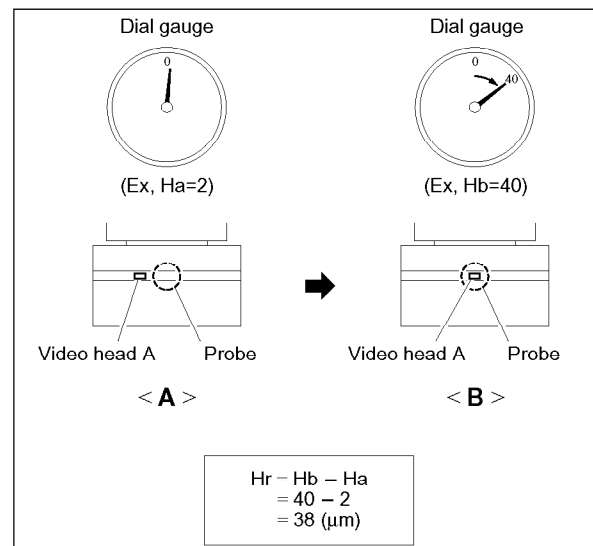

Figure 4. Example of Head Tip Protrusion Measurement
1. Rotate the upper drum manually counterclockwise (↺) very slowly to approach a video head aside of the probe. (Refer to <A> in Figure 4.)
3. Rotate the upper drum manually counterclockwise (↺) very slowly to center the video head in the probe. (Refer to in Figure 4.)